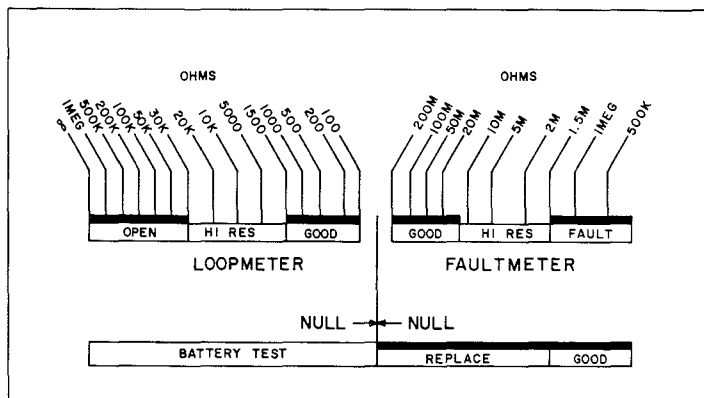

Fig. 3—Meter
(a) The FAULTMETER (Fig. 3) is labeled GOOD, HI RES, and FAULT. A fault from 0 ohms to 1.5 megohms is indicated as a FAULT. A light fault from 1.5 to 15 megohms is indicated as HI RES while a resistance from 15 to 200 megohms is indicated as GOOD.
(b) The LOOPMETER (Fig. 3) is labeled OPEN, HI RES, and GOOD. A series loop and strap resistance of less than 1500 ohms indicates GOOD. A resistance from 1500 ohms to 30K ohms indicates a HI RES and from 30K ohms to infinity as an OPEN.
**3.08** When locating faults, the good conductor or good pair must indicate on the FAULTMETER in the good zone. In general, the quality required of the good pair is determined by the magnitude of the FAULT resistance. For example, for a 1.5-M ohm fault (Fig. 3) a good pair that reads 200M ohms or higher should be used for best results. For a fault resistance of less than 500 K ohms, a good pair that reads only 20M ohms is acceptable. The yellow test clip may be left disconnected if only one good conductor is available. **THE GREEN TEST CLIP IS THE INSTRUMENT PROTECTIVE GROUND AND SHOULD ALWAYS BE CONNECTED TO EARTH GROUND.**